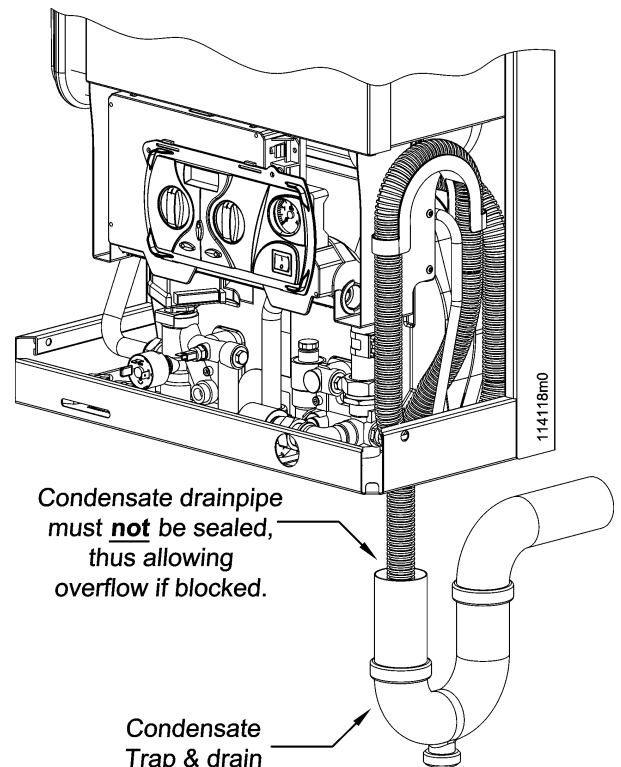

Figure 13 - Condensate trap and drain
- ☞ be connected to the domestic waste disposal system by means of an appropriate trap capable of preventing the pressurization of the condensate system and the return of sewer gases (see figure 13);